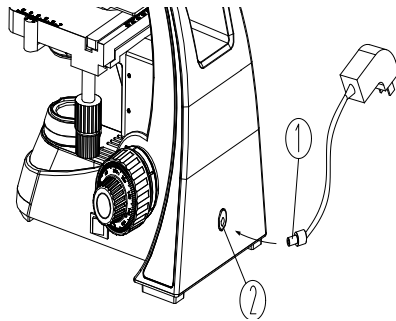

Fig.6
2. Insert one end of external power adapter① into the power socket② of the microscope. Then insert the other end into the power supply socket and make sure well-connected (See Fig. 6).